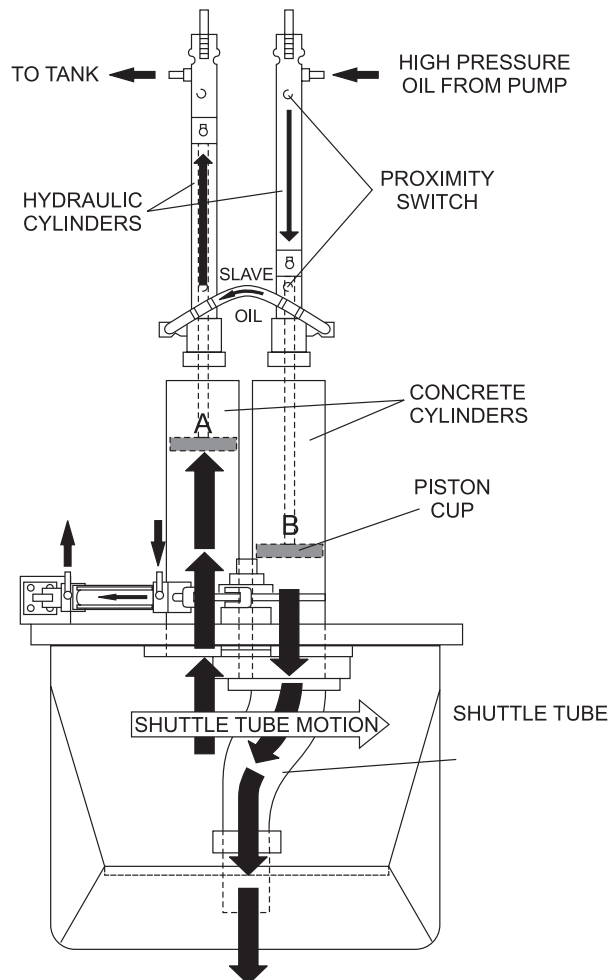

Figure 5. Pumping Cycle 1
In the first cycle, hydraulic pressure is applied to cylinder (B), causing the hydraulic piston, which is connected to the concrete piston and piston cup, to discharge concrete into the delivery line (Figure 5).